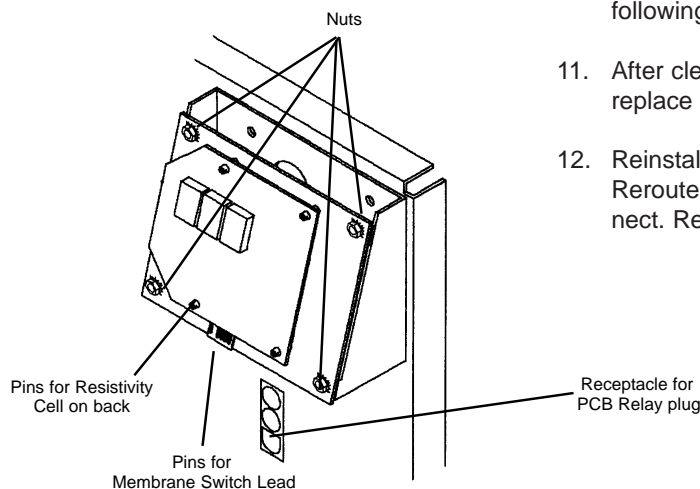

Figure 6 Printed Circuit Board
Printed Circuit Board Replacement (See Figure 6)
7. Disconnect the membrane switch lead from the printed circuit board. (See Figure 6.)
12. Reinstall the cell into the cell well and hand tighten. Reroute the cable up through the housing and reconnect. Refer to Figure 6 for proper position.